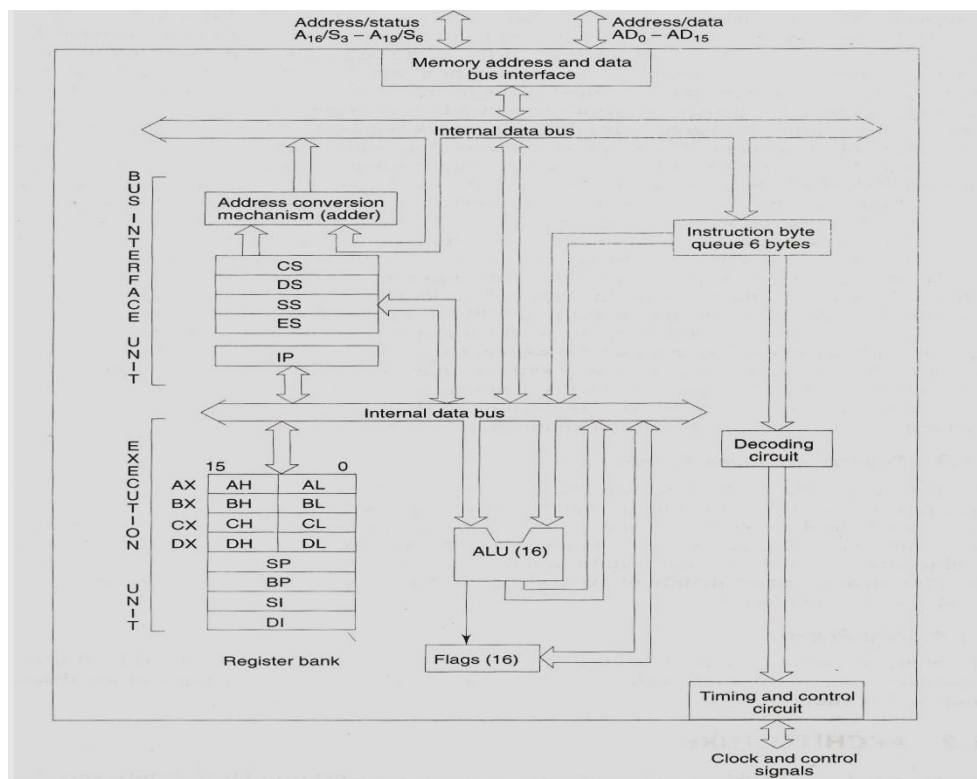

Fig1.2. Internal architecture of 8086 Microprocessor
The internal architecture 8086 microprocessor is as shown in the fig 1.2. The 8086 CPU is divided into two independent functional parts, the Bus interface unit (BIU) and execution unit (EU).